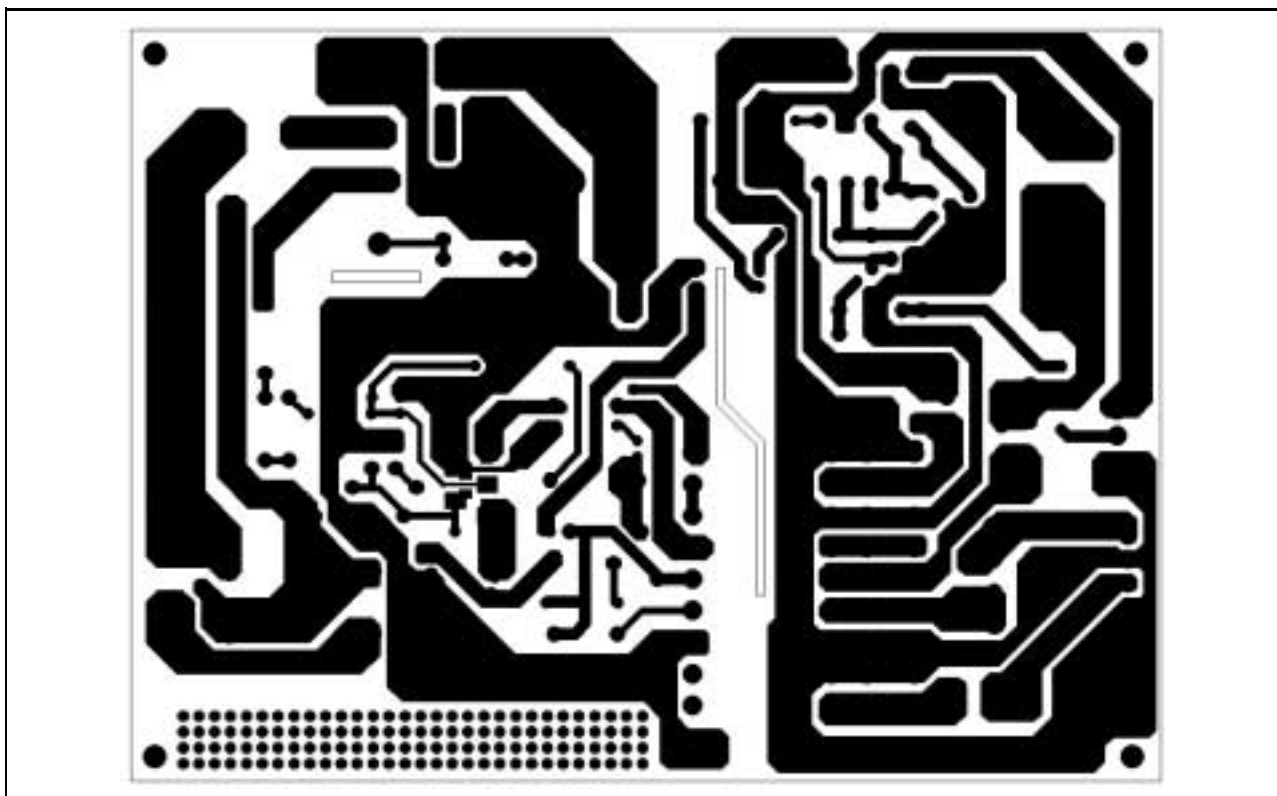

Figure 15. Layout Considerations for FSCQ1565RP
6. Burst operation : In order to minimize the power consumption in the standby mode, FSCQ1565RP employs burst operation. Once FSCQ1565RP enters into burst mode, FSCQ1565RP allows all output voltages and effective switching frequency to be reduced. Figure 15 shows the typical feedback circuit for C-TV applications. In normal operation, the picture on signal is applied and the transistor Q1 is turned on, which de-couples R3, Dz and D1 from the feedback network. Therefore, only Vo1 is regulated by the feedback circuit in normal operation and determined by R1 and R2 as